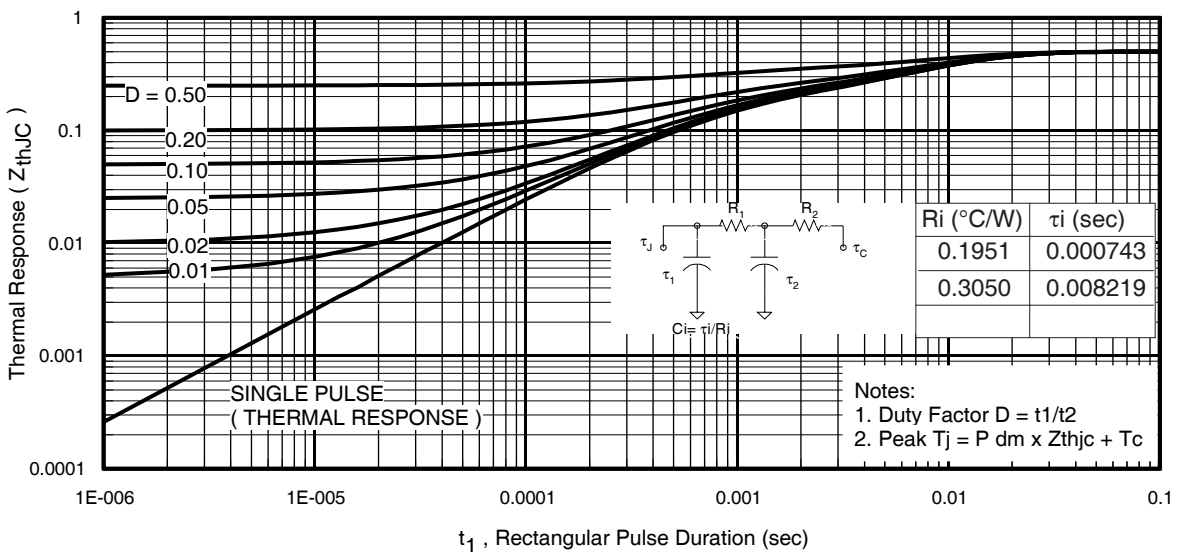
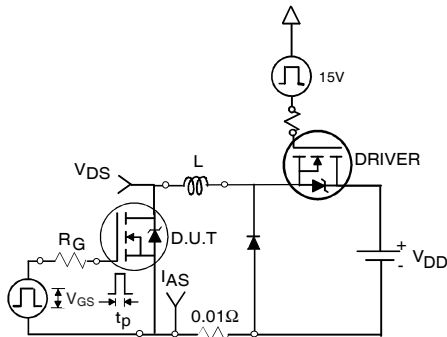

Fig 11. Maximum Effective Transient Thermal Impedance, Junction-to-Case
Fig 12a. Unclamped Inductive Test Circuit
- ① Repetitive rating; pulse width limited by max. junction temperature. (See fig. 11).
- ② Limited by T_{Jmax} , starting $T_J = 25^\circ\text{C}$, $L = 0.049mH, R_G = 25\Omega, I_{AS} = 160A, V_{GS} = 10V$. Part not recommended for use above this value.
- ③ Pulse width $\leq 1.0ms$; duty cycle $\leq 2\%$.
- ④ $C_{oss\ eff.}$ is a fixed capacitance that gives the same charging time as C_{oss} while V_{DS} is rising from 0 to 80% V_{DSS} .
- ⑤ Limited by T_{Jmax} , see Fig.12a, 12b, 15, 16 for typical repetitive avalanche performance.
- ⑥ This value determined from sample failure population. 100% tested to this value in production.
- ⑦ This is applied to D²Pak, when mounted on 1" square PCB (FR-4 or G-10 Material). For recommended footprint and soldering techniques refer to application note #AN-994.
- ⑧ R_{θ} is measured at T_J of approximately 90°C .
3. Equation below based on circuit and waveforms shown in Figures 12a, 12b.
$Z_{thJC}(D, t_{av})$ = Transient thermal resistance, see figure 11)